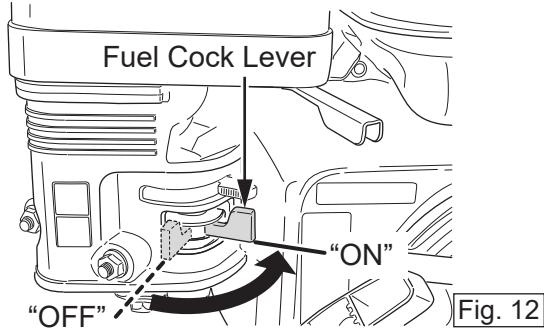

Fig. 12
2. Move the fuel cock lever to the "ON" position. (Fig. 12)